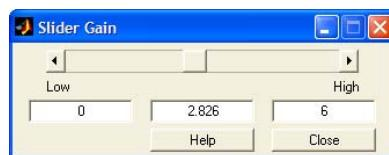

Figure 124: Slider Gain Control
- Double click on the Slider Gain Block and move the slider (Figure 124 on page 202) to change the noise level. Then view the changes on the scope.